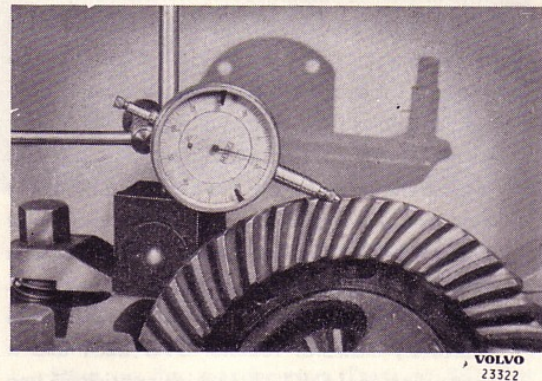

Fig. 29. Measuring the backlash.
13. Measure the backlash as shown in Fig. 29. This should be  $0.08 - 0.15 \text{ mm}$  ( $0.004 - 0.008''$ ).
Each time the position of the pinion is altered, the backlash must be adjusted and checked, see Fig. 29. On a hypoid gear, the tooth contact pattern moves diagonally over the teeth and in a different direction on the driving and reverse sides.